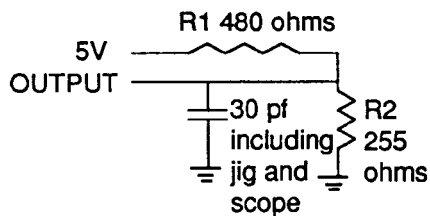

Figure 1a
1. Test conditions assume signal transition times of 5ns or less, timing reference levels of 1.5V, Input pulse levels of 0 to 3.0V and output loading specified in Figure 1a.